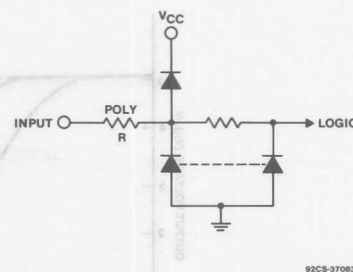
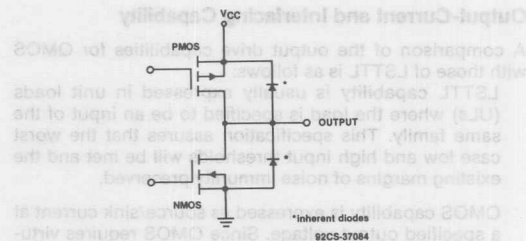

Fig. 9 - Resistor-diode protection network used on inputs of HC/HCT devices to protect device gate oxide from electrostatic discharge damage (ESD).
Fig. 21 - Inherent diodes protecting HC/HCT outputs.
The very low HC/HCT input current and hence, high input resistance is primarily due to low-level leakage currents of the input ESD protection diodes shown in Fig. 9. This excellent input buffering characteristic of CMOS logic IC's is fundamental to the wide range of very low power applications from pure logic to wide range RC oscillators, high Q crystal oscillators, etc. However, in no situation should this high input resistance be left floating or unterminated. Inputs may be tied directly to V_{CC} or GND via resistors of up to 1Mohm; the upper limit is only related to ac noise immunity, i.e., pick up.
One additional note on HC/HCT input terminations. There are several bidirectional (transceiver) logic types in the QMOS family with common I/O pins. These I/O pins do not have the input poly resistor (R) of Fig. 9. Hence, these pins cannot be terminated directly to V_{CC} or GND. A terminating resistor to V_{CC} or GND of 10kohm is recommended.
HC/HCT device inputs have a resistor-diode protection network, shown in Fig. 9, that protects the gate oxide from electrostatic discharge (ESD) damage. The network provides protection to levels typically greater than 2kV in all modes pertaining to the input, as shown in Fig. 10. The 2kV figure was arrived at by testing devices in the ESD test circuit shown in Fig. 11 while conforming to the MIL-STD-38510 requirements.
As a general rule, CMOS logic devices employing input clamp diodes (Fig. 9) to minimize ESD effects should be operated between the power supply rails. If the input series polysilicon resistor shown in Fig. 9 is not considered, then the rule is:
The outputs in a QMOS device are protected from ESD damage by diodes. Figure 21 shows these diodes. These intrinsic diodes are effective because of the large geometries (widths) of the output transistors. These diodes are the drain to n-substrate junction of the p device and the drain to p-well junction of the n device. This network provides protection to voltage levels typically greater than 3kV in all ESD discharge modes pertaining to the output (see Fig. 9).